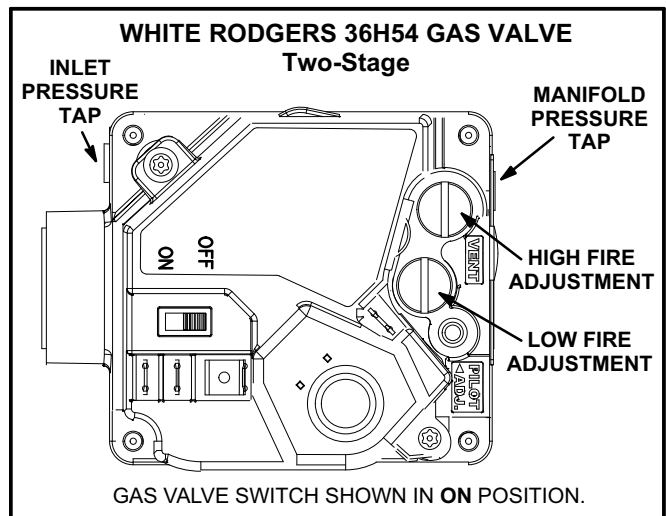
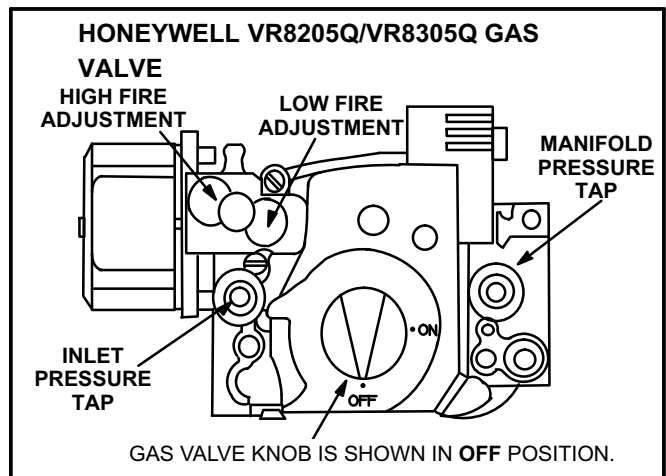

FIGURE 26
FIGURE 27
Gas Valve Operation for Honeywell VR8205Q/VR8305Q and White Rodgers 36H54 (figure 26 and 27).
- 5- Turn gas valve switch to **OFF**. See figure 26. On Honeywell VR8305Q gas valves, turn the knob on the gas valve clockwise  to “OFF”. Do not force. See figure 27.
- 6- Wait five (5) minutes to clear out any gas. If you then smell gas, **STOP!** Immediately call your gas supplier from a neighbor's phone. Follow the gas supplier's instructions. If you do not smell gas, go to the next step.
- 7- Turn gas valve switch to **ON**. See figure 26. On Honeywell VR8305Q gas valves, turn the knob on the gas valve counterclockwise  to “ON”. Do not force. See figure 27.